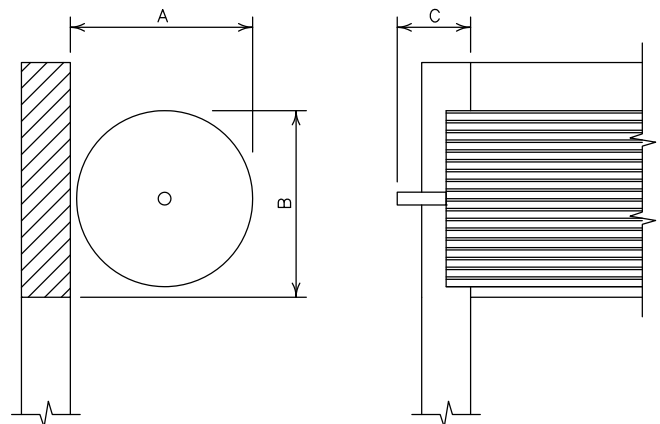

Figure 1.
- Clearances? (Reference Figure 1)